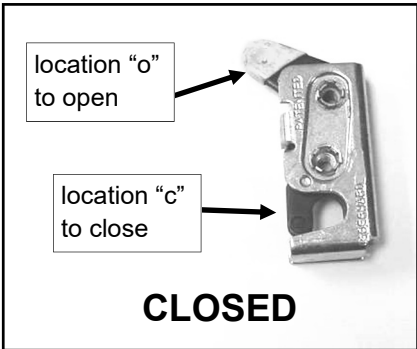

Fig. 2.5 (latch shown closed)
2.5 Tip: removal of any component that has latches can be made easier for a single person if the latch is opened to disengage the receiving pin then manually closed as shown in fig. 2.5 so the weight of the component does not cause the latch to continually re-engage on the receiver pin when you try to work the opposite side of the vehicle by yourself. Push at location “c” to close and pull at location “o” to open. Be sure to open latches before re-installing.